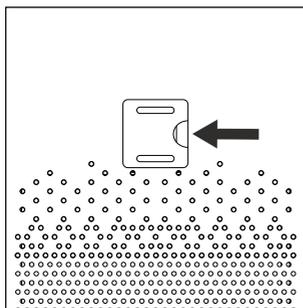

Fig. 1
2. Open the particle sensor compartment cover **11** on the back of the appliance by placing your finger in the cover **11** opening (see fig. 1). Then pull the cover **11** towards you until it opens.